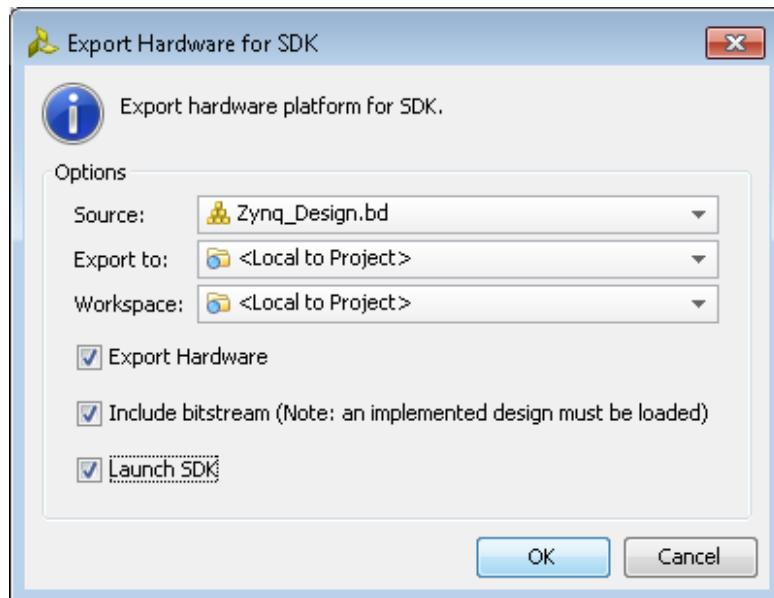

Figure 239 Export to SDK Dialog Window
2. In the Export Hardware for SDK dialog (Figure 239) ensure that Include Bitstream and Launch SDK options are ticked then click OK to complete